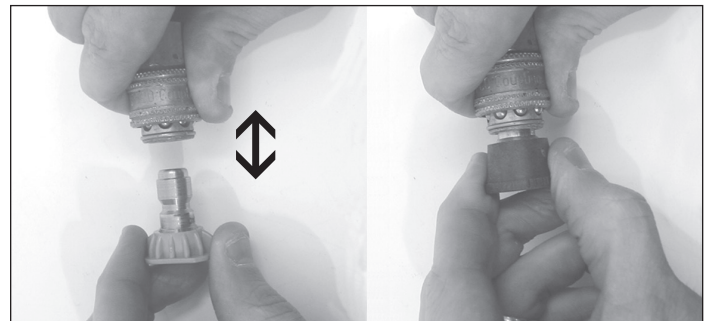

Figure 10 - Quick connect nozzle
7. Install quick connect nozzle (See Figure 10).